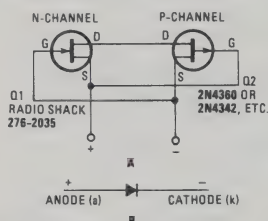

Fig. 1—Home Brew Diode.
The schematic diagram in Fig. 1 shows how our two terminal device is constructed from two JFET transistors; an N-channel and a P-channel unit. The JFET pair is interconnected so that only two leads extend out into the real world. Somewhat like a diode, one lead is referred to as the anode (positive terminal) and the other lead the cathode (negative terminal).
your own special diode is no problem. Take a pair of complementary JFET transistors and connect them together as shown in Fig. 1. We used Radio Shack's N-channel (276-2035) and P-channel (2N4342) JFET's to make the diode.
- D1—(See text and Fig. 1)